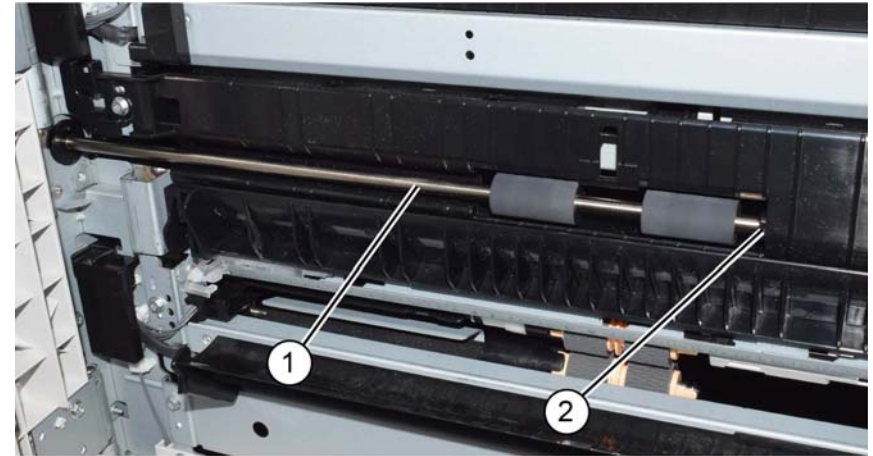

Figure 7 Roll removal
5. Remove the lower takeaway roll (1) and bearing (2), Figure 7.